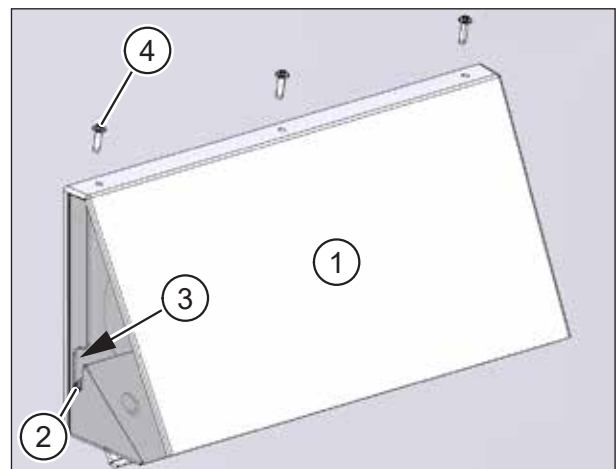

Fig. 14: Outer wall terminal installed
- ▶ Position the cover (item 1 in Fig. 14) on the base plate so that the tabs of the cover (item 2 in Fig. 14) slide into the guides on the base plate (item 3 in Fig. 14).
- ▶ Use the three cross-head screws 3.5 x 16 (item 4 in Fig. 14) to fix the cover.